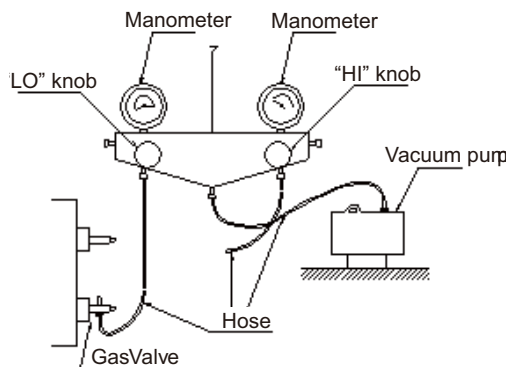

Fig.8
3) As shown in the following figure (Fig.8), expel the gas inside the indoor unit and refrigerant pipe out by the vacuum pump.